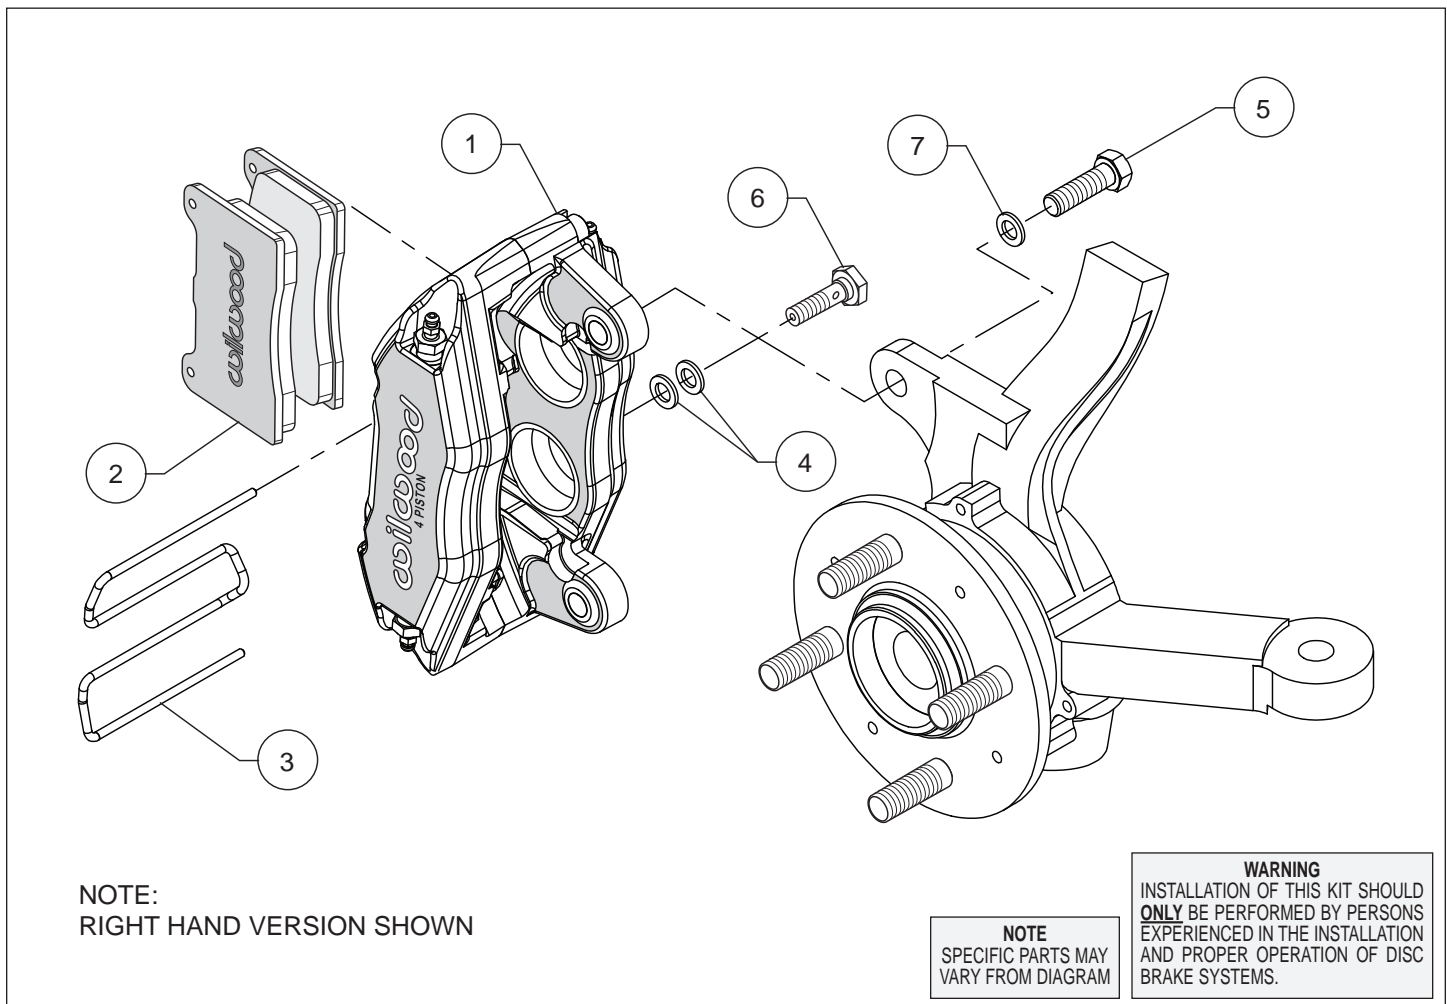

Figure 1. Typical Installation Configuration
Assembly Instructions (numbers in parenthesis refer to the parts list and Figure 1 on the preceding page):
• Mount the new Wilwood caliper (1) onto the axle hub caliper mounting bosses using bolts (5) and washers (7) as shown in Figure 1 and Photo 1. Apply red *Loctite*® 271 to the bolt threads and torque to 60 ft-lbs.
• Install the disc brake pads (2) into the caliper, with the friction material facing the rotor, and secure in place using pad clip retainer (3), Figure 1 and Photo 2.